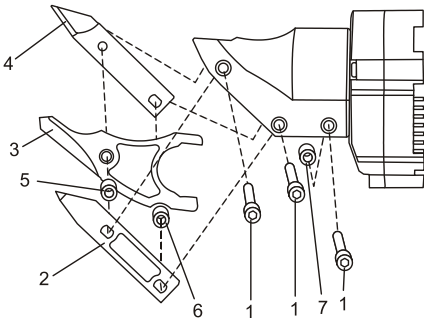

Fig. 6
1. Remove all three blade screws (1) (Fig. 6).